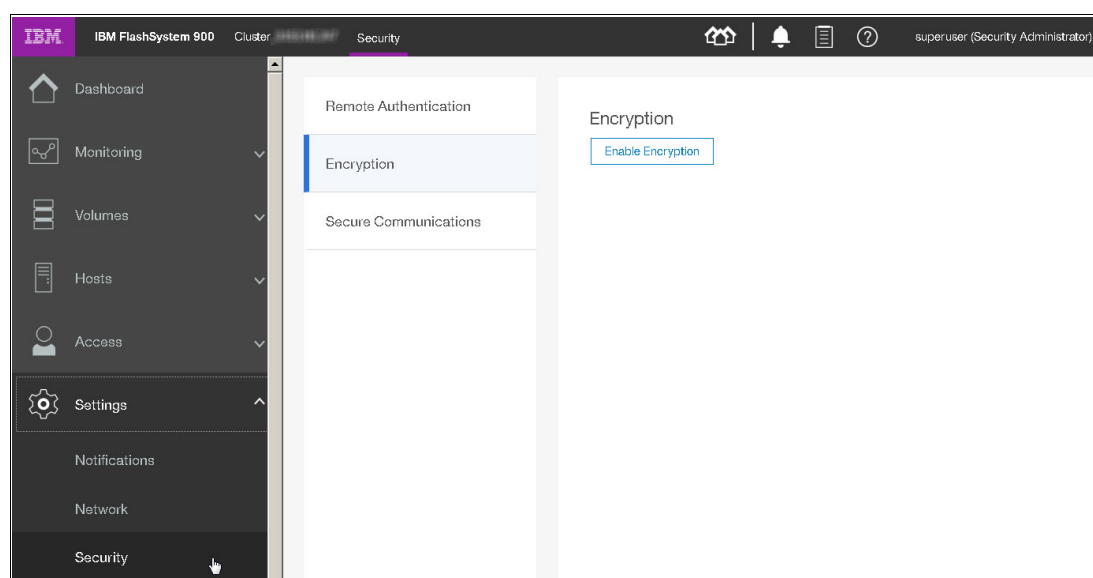

Figure 7-32 Enable system encryption
1. In the GUI, click **Settings** → **Security** → **Encryption** see (Figure 7-32).